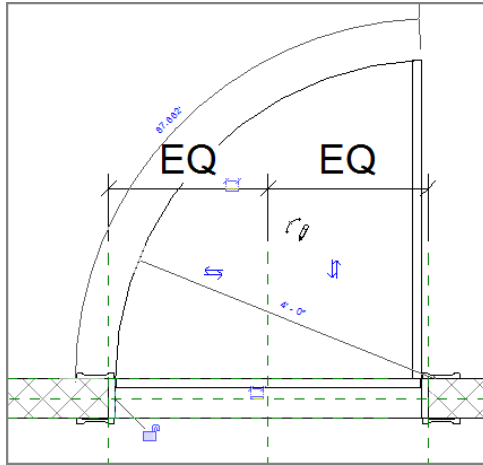

FIGURE 17.27: Drawing the plan swing arc
7. Draw an arc from the left side of the jamb to the top of the symbolic swing, as shown in Figure 17.27. Click Modify.